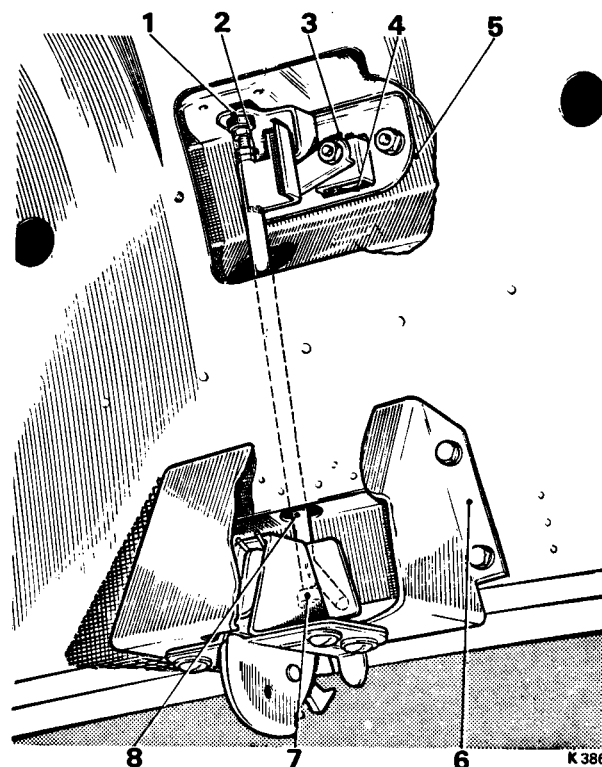

FIG. S53 LUGGAGE COMPARTMENT LID LOCK MECHANISM (4-Door Saloon and Long Wheelbase Cars)
4-Door Saloon and Long Wheelbase cars (see *Fig. S53*)
3. Remove the two $\frac{7}{8}$ in. A/F nuts securing the upper bracket (see Fig. S53, item 5); remove the bracket.
2.(a) **4-Door Saloon and Long Wheelbase cars** (see Fig. S53). Fit the upper bracket, remote control rod and lower lock catch mechanism as follows.